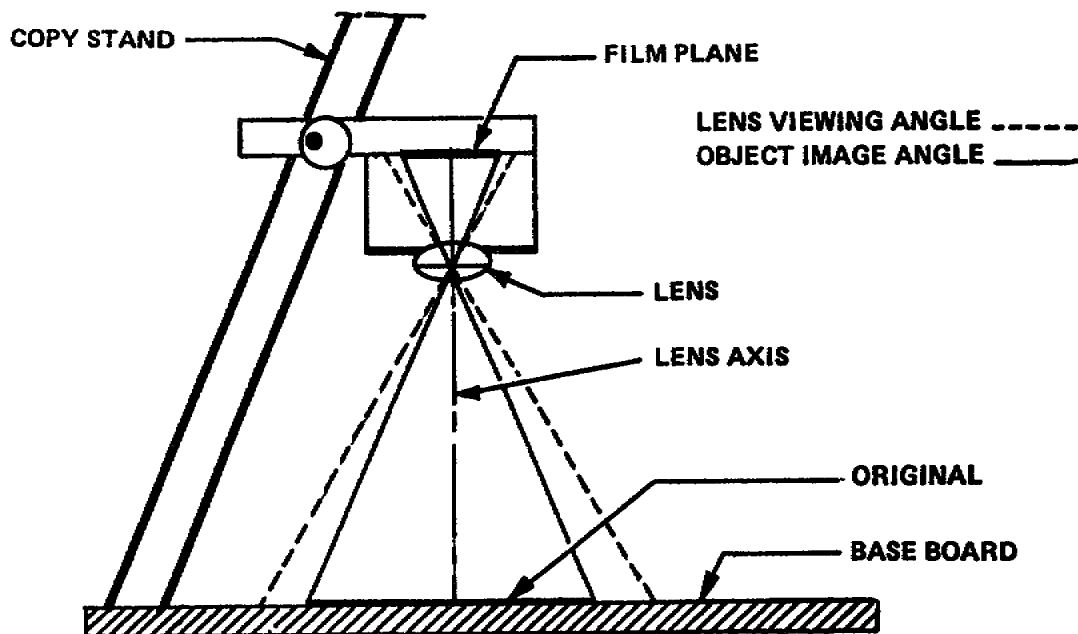

Figure 3-1. Vertical copying
2. Placing the copy original. Mount the original and backing upside down and flat on a copy board or easel parallel to the film plane. It should be centered with the optical axis of the lens (fig 3-1). Place the original parallel with the film to prevent distortion due to perspective. Centering the original with the optical axis of the lens aids in framing and minimizes
3. Choosing copy position. Your choice of copying in the vertical or horizontal position depends on your camera, size or weight of copy, or your preference. Most small copy cameras mounted on stands are vertical; that is, they expose copy from above. Most heavy 8- by 10-inch and larger cameras are horizontal but some such as the KS-7A are adjustable to both styles. Any hand-held camera and the 4- by 5-inch view camera can be used in either way (figs 3-1 and 3-2).